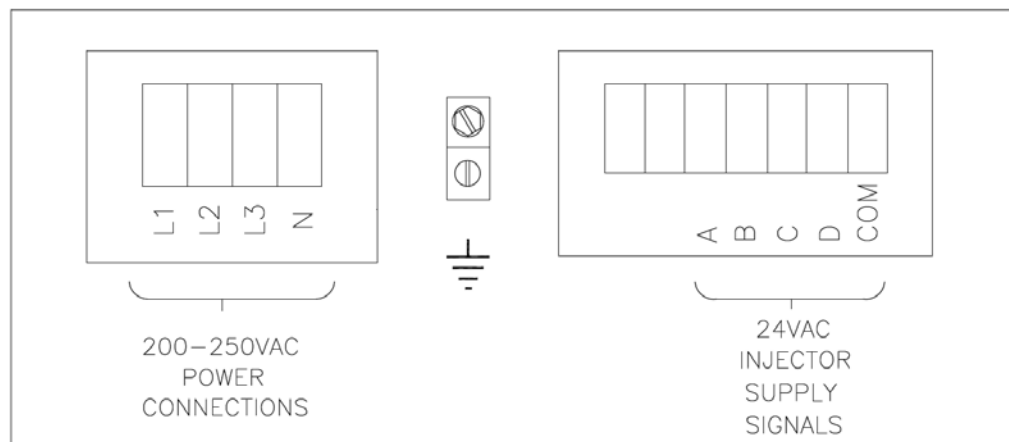

Figure 1-5: Electrical Connections and Chemical Supply Signals
- 1.6.1.2 Remove the top panel of the washer and locate the power terminal block near the back of the control compartment. Connections are as shown in Figure 1-5.